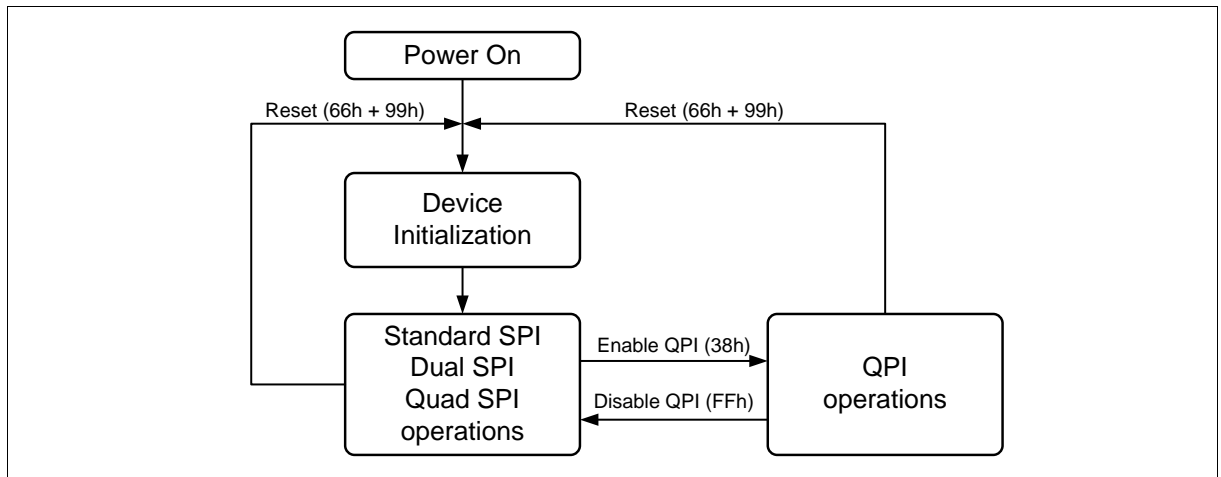

Figure 2 FM25Q04B Serial Flash Memory Operation Diagram
The FM25Q04B supports Quad Peripheral Interface (QPI) operations only when the device is switched from Standard/Dual/Quad SPI mode to QPI mode using the “Enable QPI (38h)” instruction. The typical SPI protocol requires that the byte-long instruction code being shifted into the device only via DI pin in eight serial clocks. The QPI mode utilizes all four DQ pins to input the instruction code, thus only two serial clocks are required. This can significantly reduce the SPI instruction overhead and improve system performance in an XIP environment. Standard/Dual/Quad SPI mode and QPI mode are exclusive. Only one mode can be active at any given time. “Enable QPI (38h)” and “Disable QPI (FFh)” instructions are used to switch between these two modes. Upon power-up or after a software reset using “Reset (99h)” instruction, the default state of the device is Standard/Dual/Quad SPI mode. To enable QPI mode, the non-volatile Quad Enable bit (QE) in Status Register-2 is required to be set. When using QPI instructions, the DI and DO pins become bidirectional  $DQ_0$  and  $DQ_1$ , and the WP# and HOLD# pins become  $DQ_2$  and  $DQ_3$  respectively. See Figure 2 for the device operation modes.